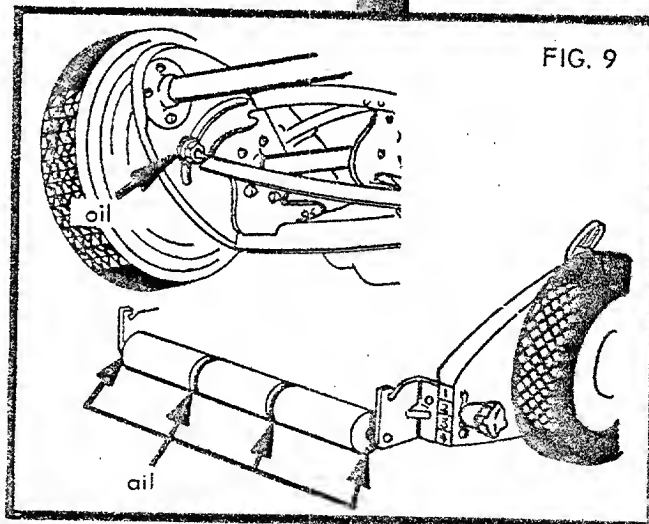

FIG. 9
5. Lightly lubricate with engine oil, points indicated on roller and between end plates and wheel dust covers. Periodic lubrication at these points will insure smooth mechanical operation. (Fig. 9).